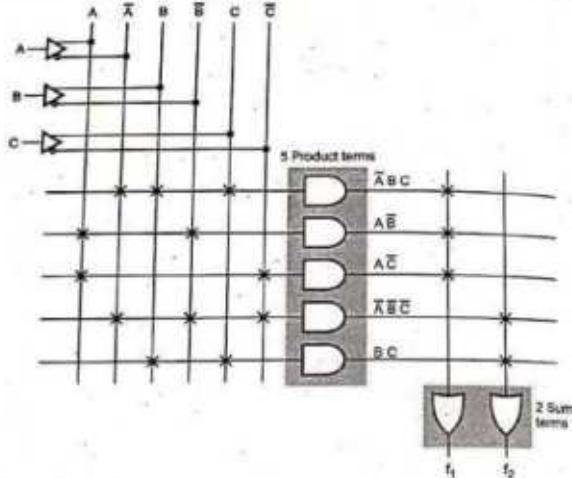

Fig. 7.13.7
**Step 2 :** Implementation (see Fig. 7.13.7 on next page)